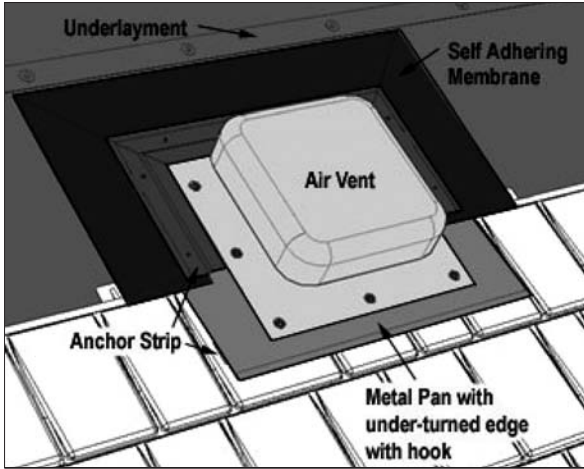

FIGURE 1-44 Roof Vent Construction Detail #2
6. Apply the panels up to and around the air vent penetration. Ensure all cut panels are hemmed under and securely locked into the Anchor Strip. *See Figure 1-44.*